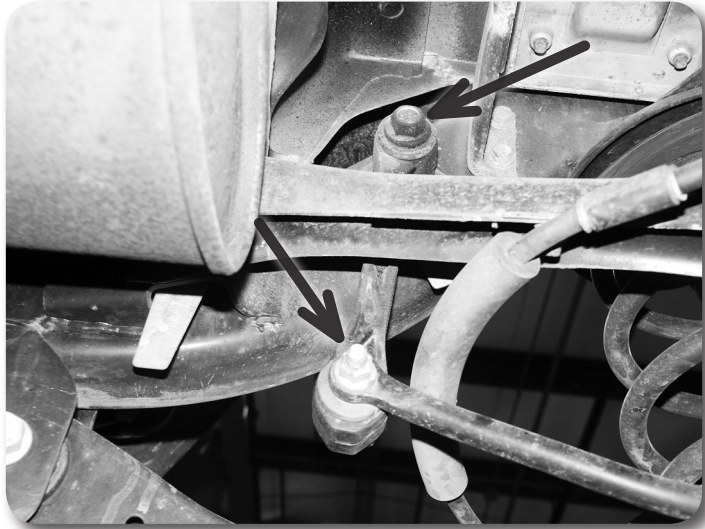

Figure 10
5. Disconnect the sway bar links from the sway bar and frame using a 15mm socket and 18mm wrench **Figure 10**. Save hardware.